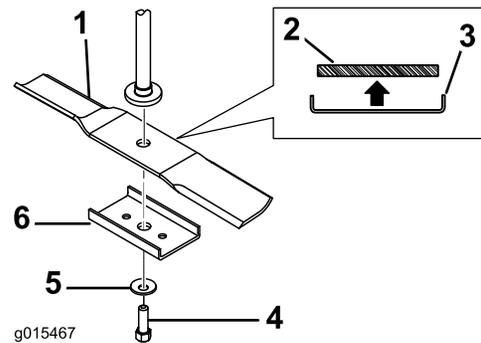
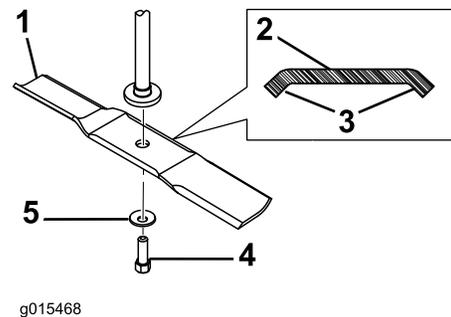

Figure 2
Figure 3
1. Choose the style of blade, of those shown in Figure 2 and Figure 3 that best matches the blades on your mower. Hold the blade end using a rag or thickly-padded glove and remove the blade as shown.